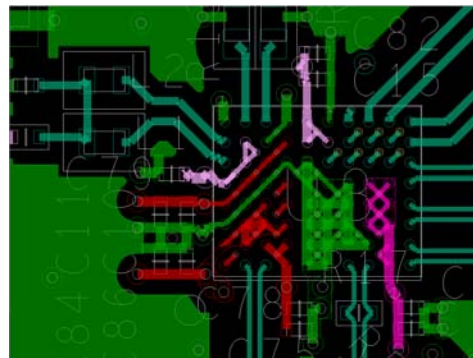
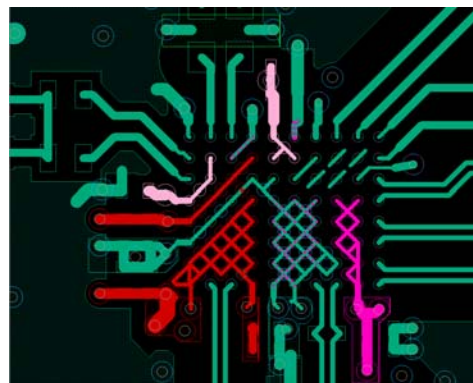

Figure 140. AD6676EBZ PCB Top Side Layout Example
Figure 141. Alternative PCB Top Side Layout Example That Avoids a Through Hole Via under the Device
The design of the PCB is critical in achieving the full performance of the AD6676. The AD6676EBZ evaluation board, used for characterizing the AD6676 ac performance, serves as an example of a possible layout that uses 0.1 mm (4 mil) through-hole vias under the device. Figure 140 shows the top side PCB layout of the region surrounding the AD6676 where all the critical analog input/outputs, digital input/outputs, and passive components reside. An alternative top side layout is shown in Figure 141 that avoids any through-hole vias under the device. Because this modified layout resulted in only a slight degradation in IMD performance, consider this layout option if via placement under the device is not possible.
- The alternative layout shown in Figure 141 uses 0.2 mm through-hole vias just outside of the AD6676 package for all supply and ground domains with all of the 1.1 V analog supply domains (VDD1, VDDL, VDDC, and VDDQ) connected to each other providing a low impedance path to the critical inner VDD1 and VDDL balls. This alternative layout also avoids any narrow signal traces to inner row balls (with exception of CSB) by using a 3-wire SPI interface (with the SDIO, RESETB, AGC4, and AGC3 balls left open). Note that the thin inner trace for CSB (positioned between the SCLK and SYNCINB- balls) could have been avoided by running a wider straight trace instead of connecting the CSB and SYNCINB- balls because, by default, the SYNCINB input is configured for a CMOS input with only SYNCINB+ used for signaling (and SYNCINB- ignored).